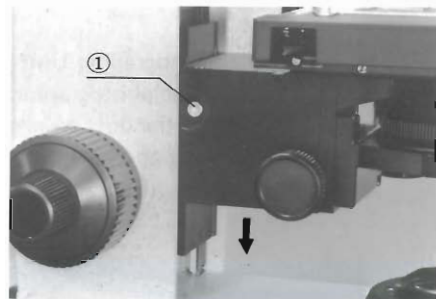

Fig. 19
The stage block height can be adjusted by loosening the stage block locking screw ① with the Allen wrench provided and retightening it at the upper position. Then, dislocate the lower limit stop pin beneath the stage block into a lower tapped hole. After lowering the stage block, reclamp the stage block locking screw ①. (Fig. 19)